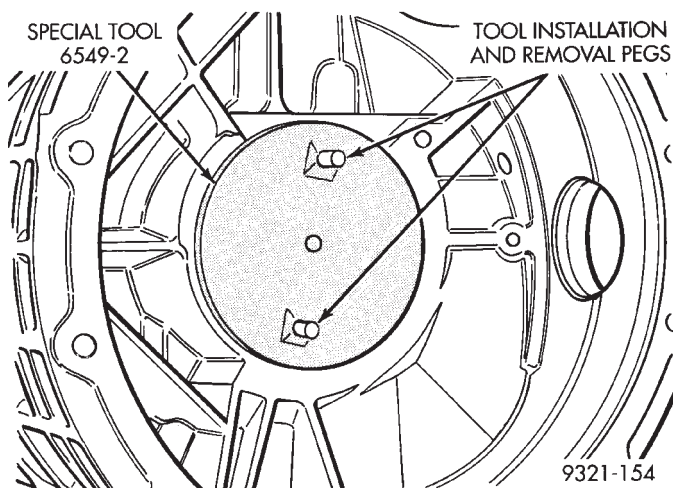

Fig. 251 Installing Centering Block
(2) Install centering block (special tool 6549-2) into the transaxle case (Fig. 251). Screw centering block into inner adjuster hole of case until it bottoms. The pegs on the special tool are only used for installation. Orientation within the case is not required.